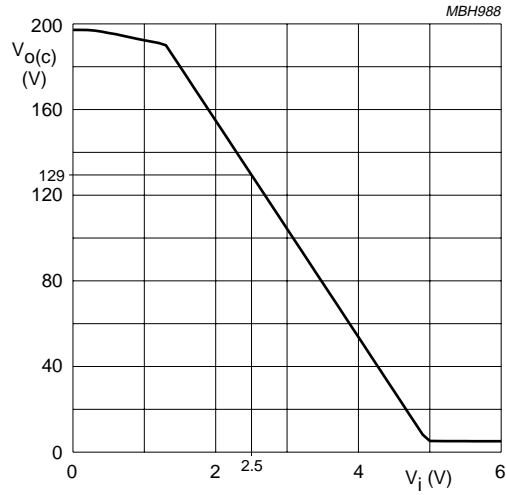

Fig.5 Typical DC-to-DC transfer of V_i to V_{OC} .
1. See also Fig.5 for the typical DC-to-DC transfer of V_i to $V_{O(oc)}$.